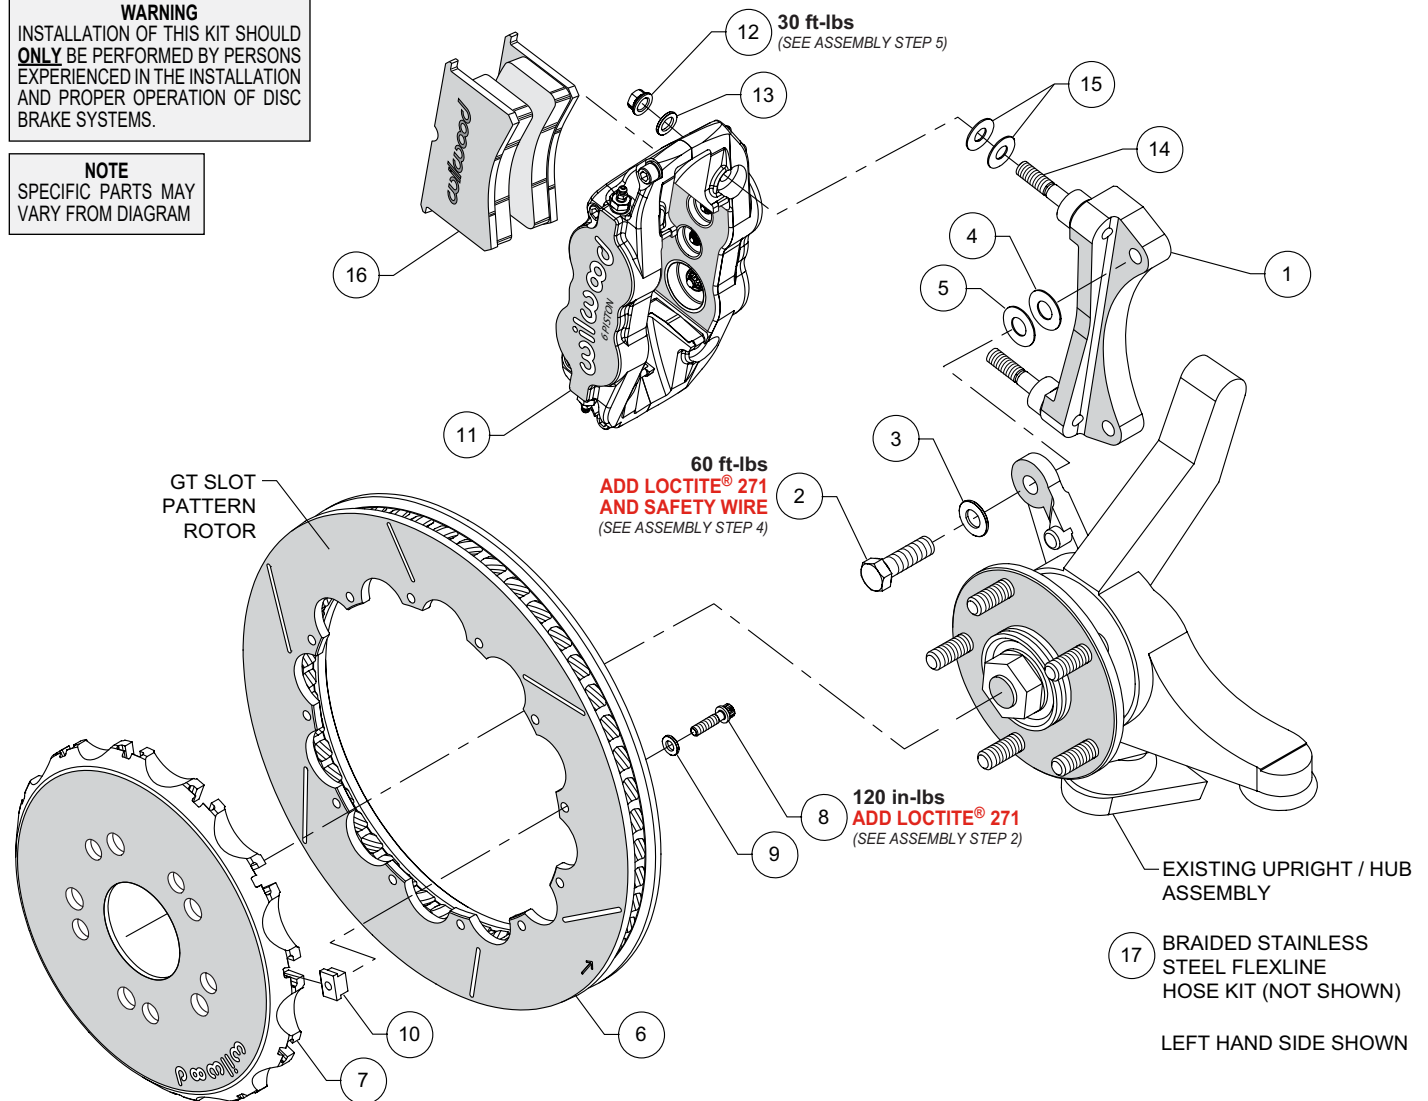
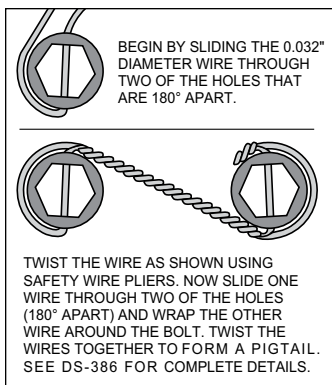

Figure 1. Typical Installation Configuration
Figure 3.
NOTE: Numbers in parenthesis refer to the parts list and Figure 1 on the preceding pages.
STEP 1 The caliper mount bracket (1) should initially be installed with clean, dry threads on the mounting bolts. Orient the bracket as shown in Figure 1 and Photo 1, and install using mounting bolts (2) and washers (3). Initially place one .033" thick shim (4), and one .015" thick shim (5) on each bolt between the bracket and upright, Figure 1. Temporarily tighten the mounting bolts. **NOTE:** The bracket must fit squarely against the mount bosses on the upright. Inspect for interference from casting irregularities, machining ridges, burrs, etc. Later, after the caliper alignment has been checked, the mount bolts will be secured using red *Loctite*® 271.
STEP 2 Orient the rotor (6) and the hat (7) as shown in Figure 1 and Photo 2. Attach rotor to hat using bolts (8), washers (9) and t-nuts (10). Apply red *Loctite*® 271 to the bolt threads and torque to value shown in Figure 1 using a criss-cross pattern. For an added measure of security, the bolts may be safety wired using standard 0.032 inch diameter stainless steel safety wire as shown in Figure 3. Please refer to Wilwood's data sheet DS-386 (available at www.wilwood.com/Pdf/DataSheets/ds386.pdf) for complete safety wire installation instructions.
STEP 4 NOTE: This kit contains distinct right and left hand calipers that must be mounted in a specific direction, as described below. Initially place two .035" thick shims (15) on each stud as shown in Figure 1 and Photo 3. Mount the caliper (11) onto the bracket (1) using lock nuts (12) and washers (13), Figure 1 and Photo 4. Ensure that the caliper is mounted so that the largest pistons are at the rotor exit end of the caliper, in relation to the direction of rotor rotation. Temporarily tighten the lock nuts and view the rotor through the top opening of the caliper. The rotor should be centered in the caliper, Photo 5. If not, adjust by adding or subtracting shims (4 and/or 5) between the bracket and the upright. Always use the same amount of shims on each of the two mounting bolts. Once the caliper alignment is correct, remove the bracket mounting bolts (2) one at a time, apply red *Loctite*® 271 to the threads, and torque to value shown in Figure 1.
STEP 5 Remove the caliper center bridge pad retainer bolt, nut, and tube from the caliper. Insert the brake pads (16) into the caliper, with the friction material facing the rotor, as shown in Photo 6. Check that the top of the brake pad is flush with the outside diameter of the rotor, Photo 7. If not, adjust by adding or subtracting shims (15) between the caliper and the bracket. After the caliper pad height is set, reinstall the center bridge pad retainer tube, bolt, and lock nut. The lock nut should be snug without play in the bolt or tube. Be cautious not to over tighten. Torque the caliper lock nuts (12) to value shown in Figure 1.